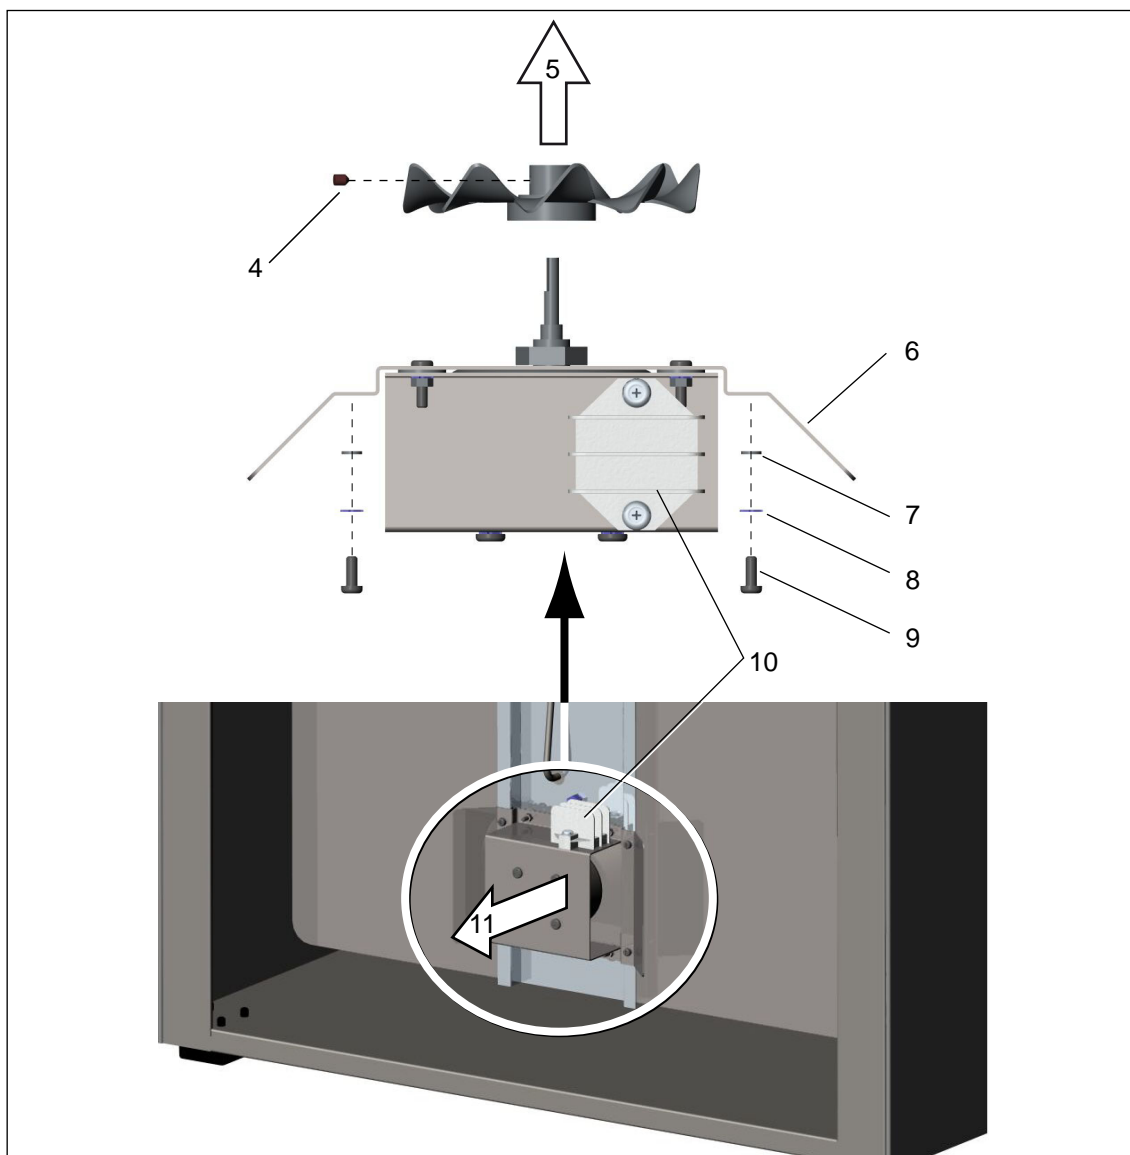

Fig. 13 Replacing the chamber fan
4. Undo the headless screw on the fan wheel (Fig. 13, 4) and remove the fan wheel towards the front (5).
5. On the rear of the appliance, unplug the two connection leads on the terminal block (10).
6. Undo four screws (9) with washer (7) and serrated washer (8) from the fan mounting plate (6) and pull out fan module to the rear (11).